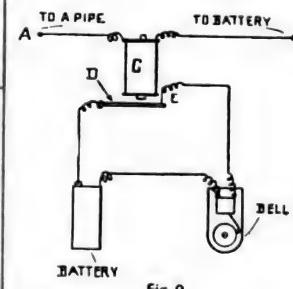

Fig. 9
L. J. Voorhees, Sayre, Pa., says it is uneconomical to divide the current in this way, and recommends putting in a switch as shown in Fig. 9. In this plan when there is a short circuit in the line A, B or main circuit for lights, it magnetizes the core of coil C, causing the steel spring D to come in contact with point E, causing a circuit through battery and bell without interfering with the main circuit in any way.
A better and more substantial way is to make a screw with a permanent swivel plate, as follows: Have the bolt forged for the purpose. (See Figs. 9 and 10.) Have the square head set about an inch below the point end, then turn down the point end (g) about half its diameter for a distance  $\frac{1}{8}$  in. longer than the thickness of the swivel plate h. Plate h should be  $\frac{1}{4}$  to  $\frac{1}{2}$  in. thick and about 3 to 4 in. square with a hole bored in the center of the same size as pin g and slightly countersunk on one side to make swivel, taking the place of block B, Fig. 3, thus making a cheap and handy jack.—Contributed by C. N. Leonard, 1319 Barth avenue, Indianapolis, Ind.